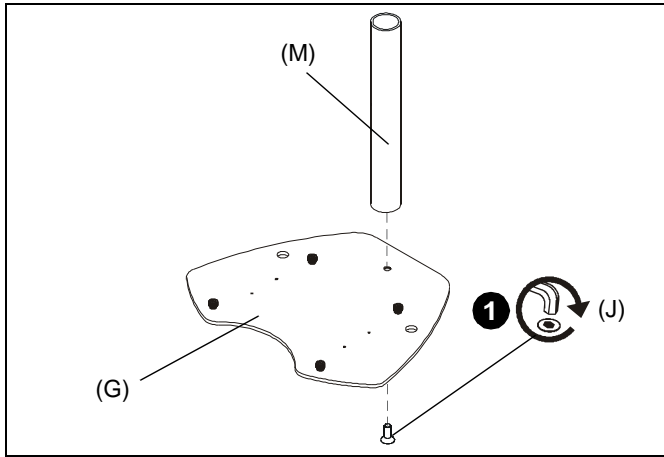

Figure 1
1. Assemble pole (M) to base (G) using one 3/8-16 x 1" flat head cap screw (J). (See Figure 1)